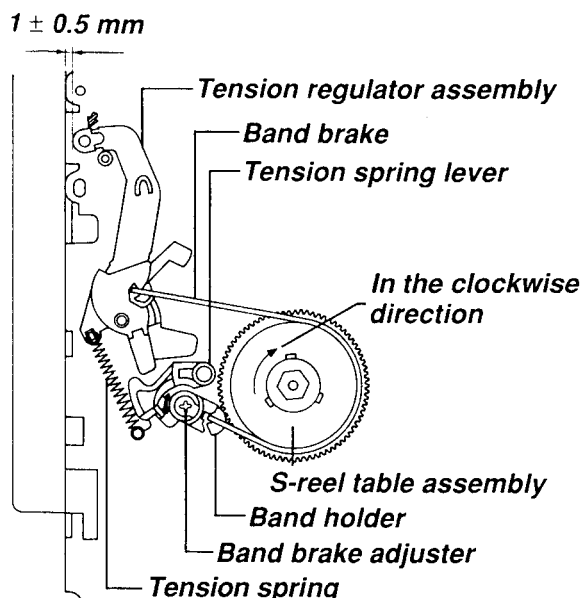

Fig. 5-2-1
4. Make sure the peripheral of the outset (shown by shaded arrow) of the tension regulator assembly is 1mm ± 0.5mm away from the main base edge as shown in Fig. 5-2-1.